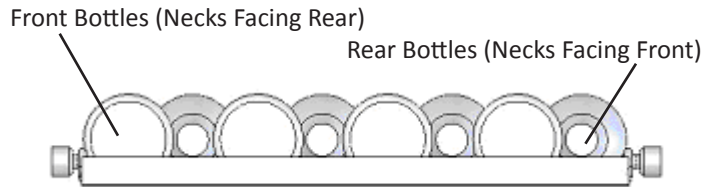
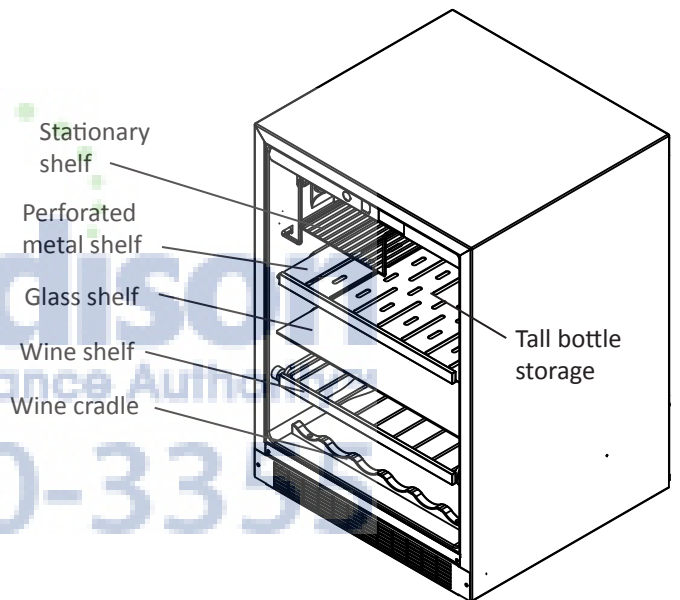

Figure 4
Figure 5
The wine rack pull-out shelf holds eight (8) bottles. See Figure 4 and Figure 6 for typical wine bottle orientation. The wine rack is located at the bottom of the cabinet just above the fixed wooden bottle cradle which will store 6 bottles of wine. The glass and metal shelves and fixed position wire rack are for general beverage storage, such as beer and soft drinks. The glass shelf also acts as a zone separator to create a warmer zone (5° - 8°F) for wine storage. To cool your wine to the same temperature as set point, the glass can be removed and if necessary replaced with a second metal shelf. Opened wine bottles and tall beverage containers may be stored on the black metal shelf closest to the cabinet top, on the right side where there is clearance for the bottles and/or containers to stand upright. (See Figure 5).